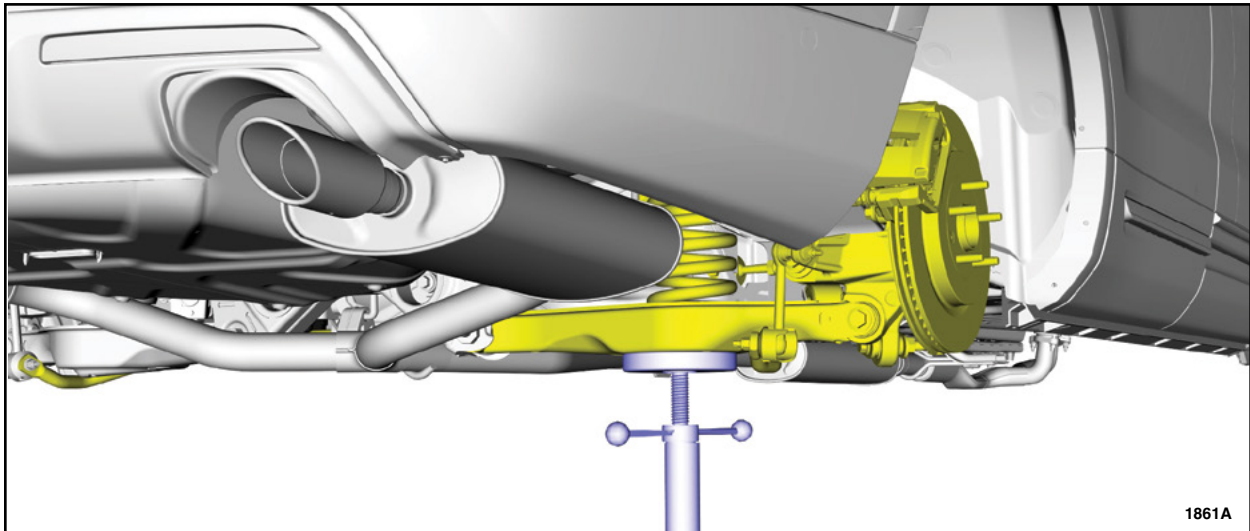

FIGURE 2
3. Using a jack stand, raise the rear of the vehicle by lifting the lower coil spring leaf. See Figure 2.